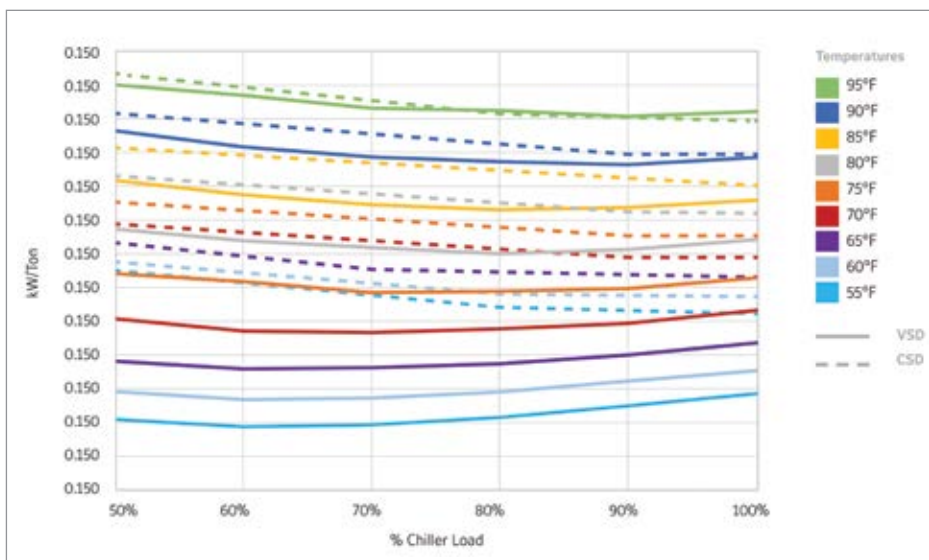

Figure 2.
A water-cooled chiller’s instantaneous power consumption varies because of two dynamics. The first is the variation in the capacity required by the system, and the second is the amount of compression required. This is illustrated in Figure 2.
Figure 2 is a graph that gives the example of a 2,500 Ton of Refrigeration (TR) water-cooled centrifugal chiller. Figure 2 isolates and compares the impact of changing loads and varying condenser water inlet temperature on a chiller’s power consumption. The solid lines represent the performance of the VSD. The dashed lines denote the performance of the CSD.